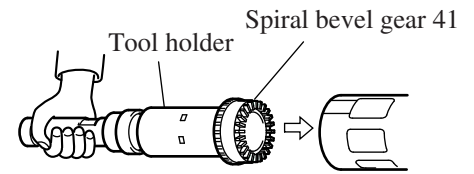

Figure 21
- To set the spiral bevel gear 41, use the tool holder without mounting the lock sleeve for smooth setting.(See the figure 21.)